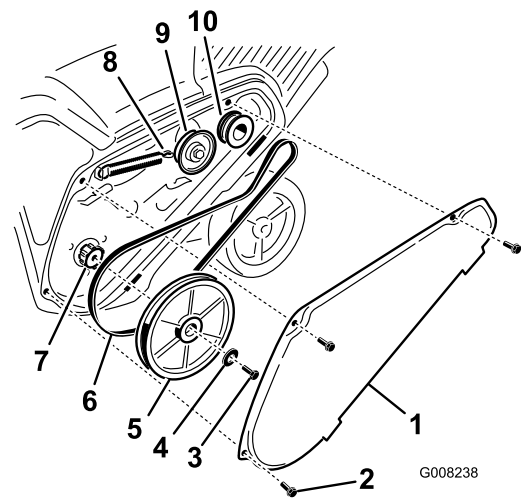

Figure 37
1. Remove the drive belt cover by removing the 3 bolts as shown in Figure 37.
2. Unhook the brake spring from the idler arm to release the belt tension (Figure 37).
3. Remove the screw and curved washer that holds the rotor pulley (Figure 37).
4. Remove the rotor pulley and the drive belt (Figure 37).
Note: Route the new drive belt first around the engine pulley, then the idler pulley, and finally around the loose rotor pulley positioned just above the rotor shaft (Figure 37).
6. Install the rotor pulley onto the rotor shaft (Figure 37).
7. Install the curved washer and the rotor-pulley bolt and tighten them securely (Figure 37).